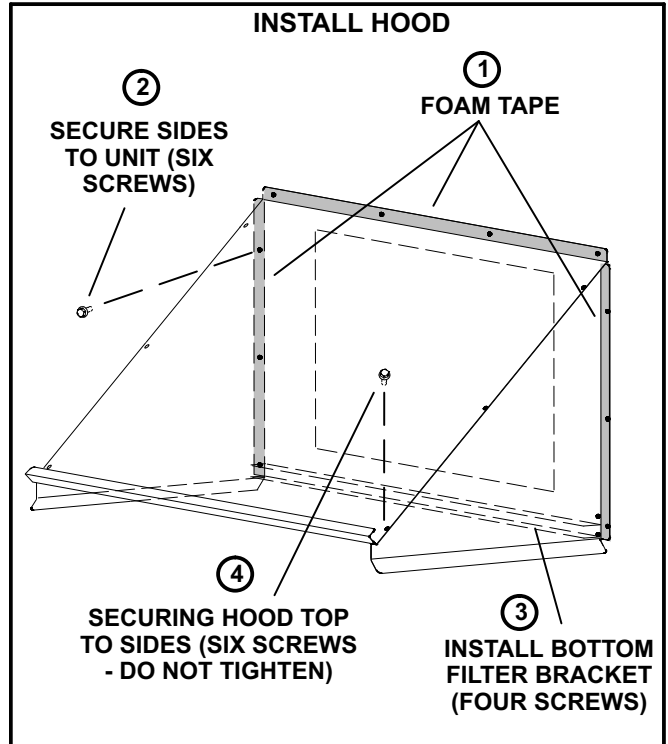

FIGURE 6
- 1- Install the self-adhering foam tape to the hood top and sides. See figure 6.
- 2- Use the locating dimples to install the right hood side onto the unit. Install the left side in the same manner. See figure 6.